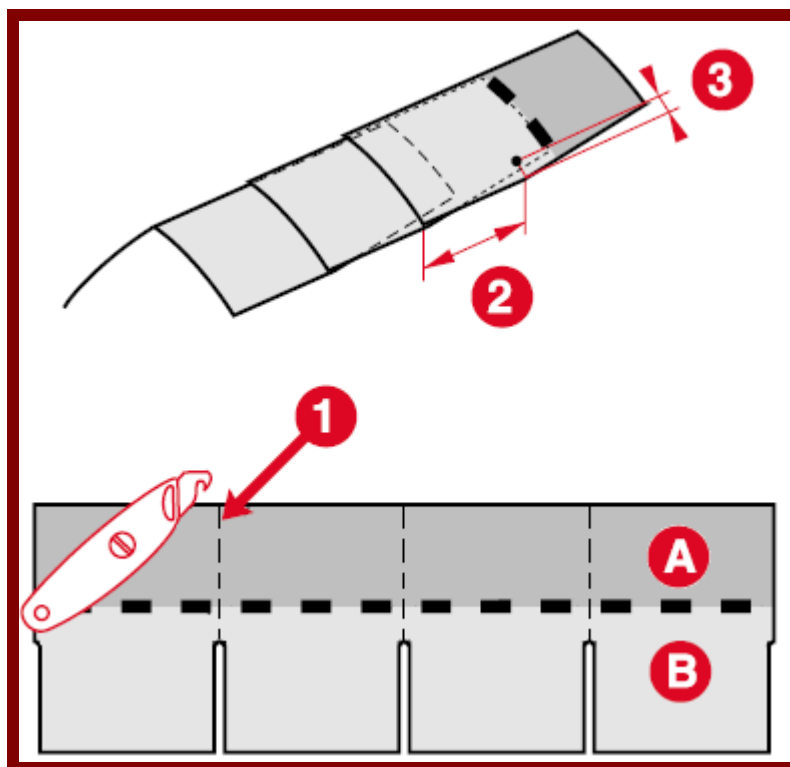

Figure 3a
Separate the straight or hex shingles into individual pieces by dividing the shingle at the cut-outs (1). ((A) is visual part, (B) is covered part). (Figure 3a). Depending on the type of shingle, you may be separating it into thirds or quarters. In cold weather warm the shingle before bending.